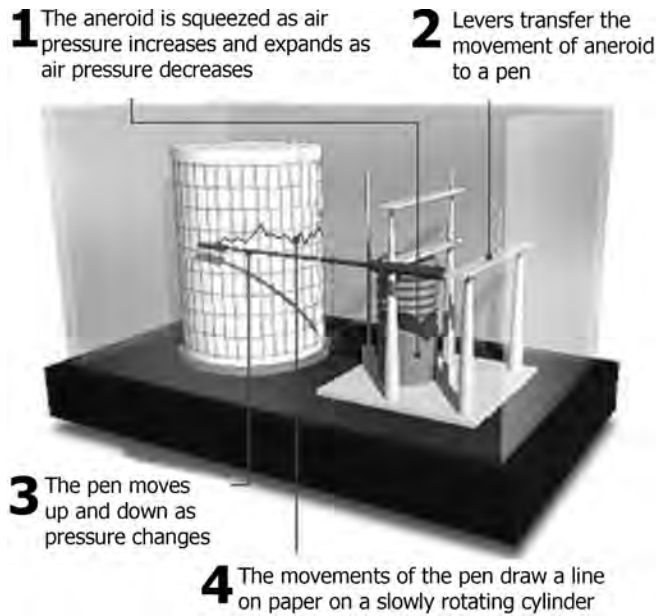

FIGURE 1.9 Aneroid barograph.
- Figure 1.9 illustrates an aneroid barograph.